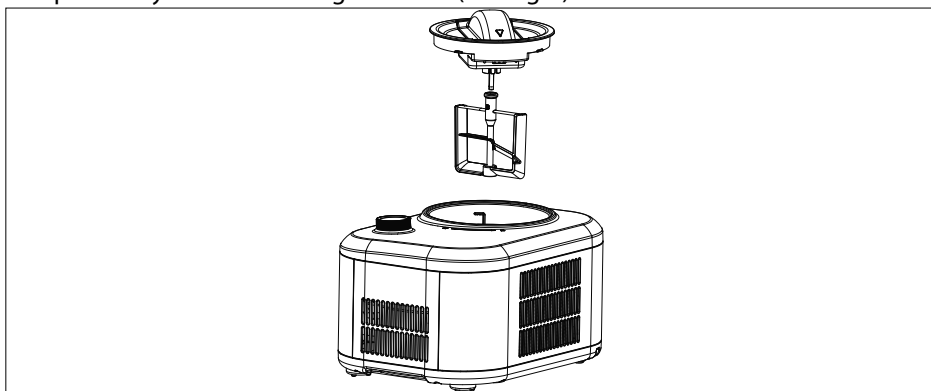

Fig. 7
- ▶ Place the components assembled in the previous step into the appliance, more specifically into the cooling chamber (see Fig. 7).